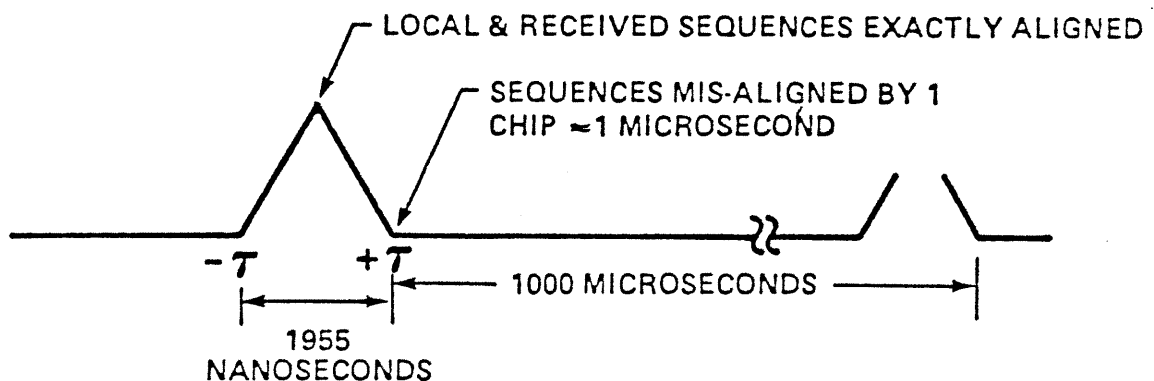
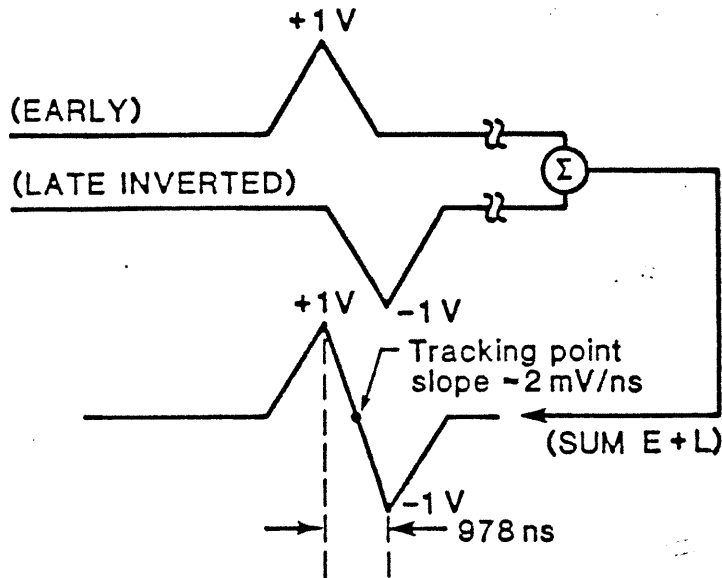

Figure 2. Cross correlation of Received and Local PN Sequences.
Figure 4. Use Of Early/Late PN Sequences To Provide Sense Information For Correlation Servo.
The primary function of a spread spectrum timing receiver is to lock a locally generated replica of the "pseudo-noise" (PN) sequence to the received PN sequence. This function is performed by the correlation loop. The ultimate time accuracy of the receiver is primarily determined by how well the correlation loop is able to track the received PN sequence, in this case, the 1,023 bit C/A code. Since the chipping rate of the C/A code is 1.023 Mega-Bits/Second we obtain a correlation interval of approximately 2 micro-seconds from $-\tau$ to $+\tau$ (See Figure 2). Time resolution to 1 ns requires that the correlation loop be able to track to 1/2000 of the total correlation interval.
The basic cross correlation process illustrated in Figure 2 does not provide any sensing information that would allow the correlation servo to maintain lock, since we have a single correlation peak with the output dropping symmetrically on either side. Sensing information is provided by generating two local PN sequences, one being $\frac{1}{2}$ chip early and the other being $\frac{1}{2}$ chip late relative to the tracking point. By inverting the late sequence and summing the correlation outputs of the Early and Late sequences, we generate an error voltage that provides sensing information to the correlation servo integrator. These waveforms are illustrated in Figure 4.